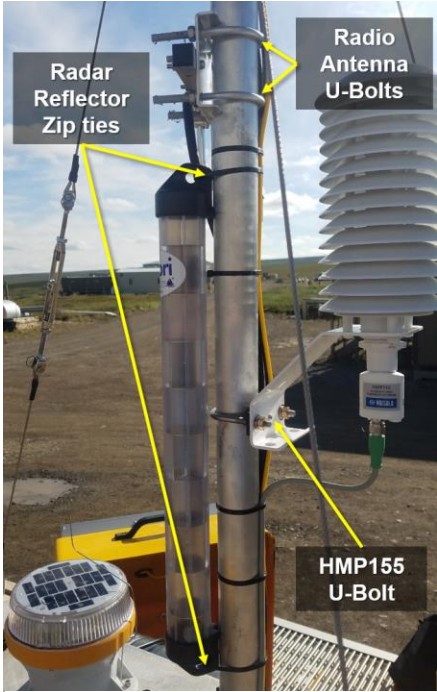

Figure 29. Remove Instruments from Met Mast
16. Remove the Humidity sensor (HMP155), Radio Antenna, and Radar Reflector. Reference Figure 29.